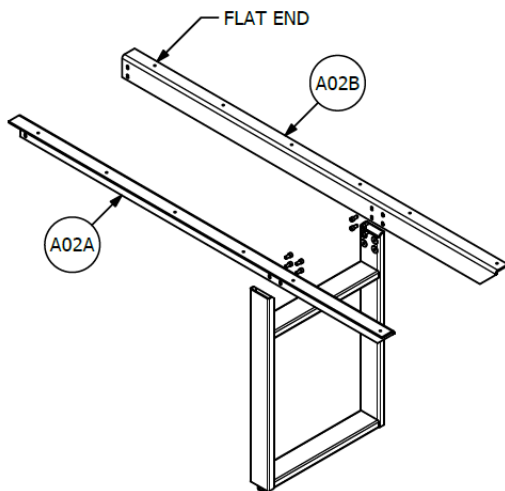
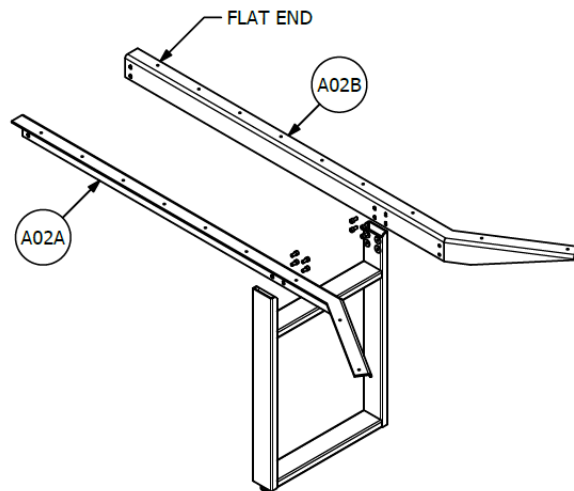

FIG. 07: TABLE RAILS (STRAIGHT) TO END BASES
FIG. 08: TABLE RAILS (ANGLED) TO END BASES
2. At the chamfered or angled end of each rail pair, assemble Bases (B) using Fastener (B02), 8 places each base. See Figure 07 for straight rail tables and Figure 08 for angled rail tables used with Power Drawer option.